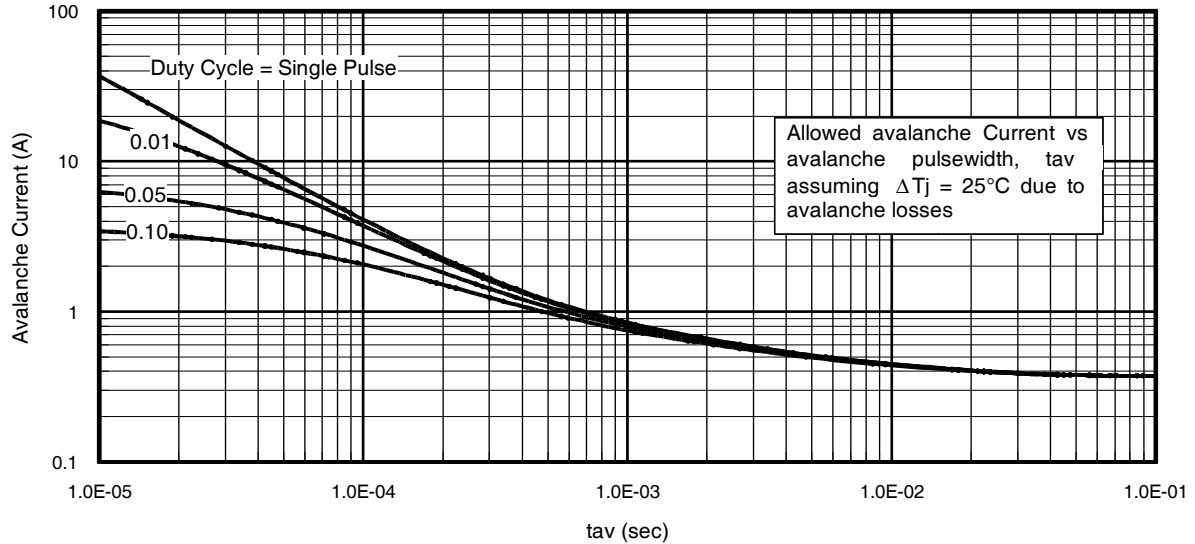

Fig 15. Typical Avalanche Current vs.Pulsewidth
Notes on Repetitive Avalanche Curves , Figures 15, 16:
7. ΔT = Allowable rise in junction temperature, not to exceed T_{jmax} (assumed as 25°C in Figure 15, 16).